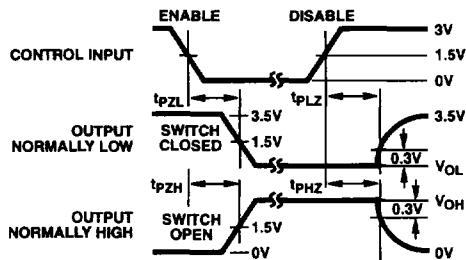

FIGURE 4. ENABLE AND DISABLE TIMING
**Switching Specifications Over Operating Range** FCT Series  $t_r, t_f = 2.5\text{ns}$ ,  $C_L = 50\text{pF}$ ,  $R_L$  (Figure 4) (Note 6)